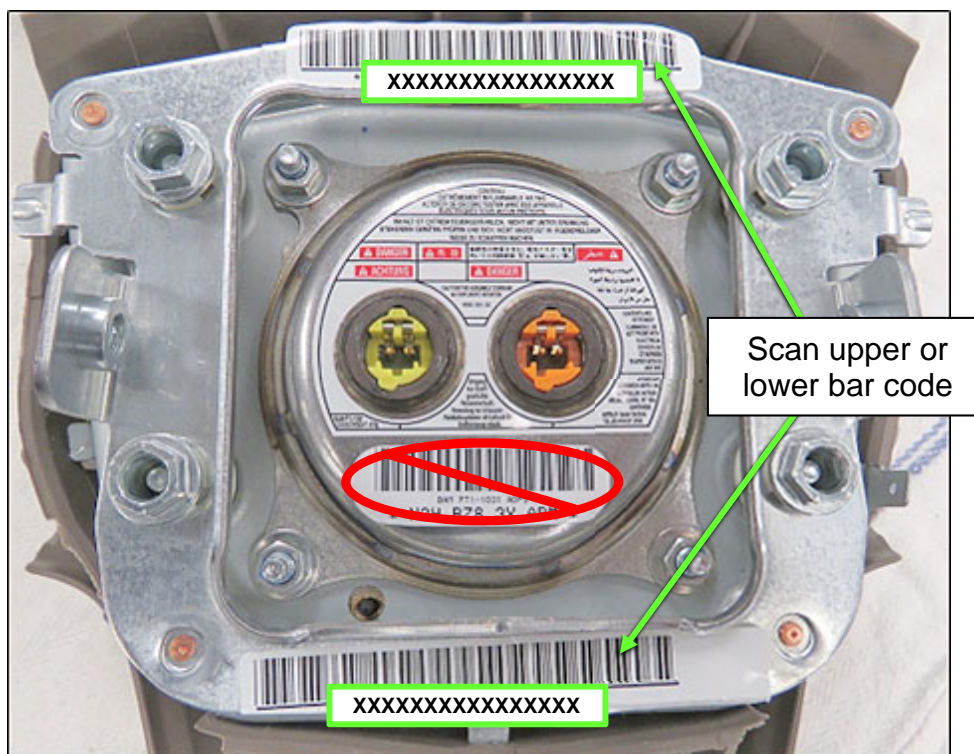

Figure 4
11. Locate the Driver Air Bag Module serial number (Figure 4).